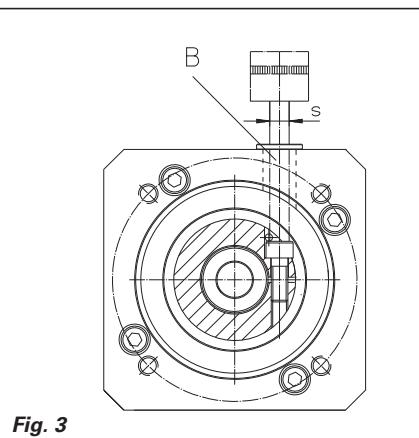

Fig. 3
- Tighten clamping screw (3.30.160) if adapter shaft also clamping screw (3.40.080) at the clamping ring. To do this, put the extension piece of the torque spanner through the assembly hole (B) (Fig. 3). Tightening torque M_A as per table.